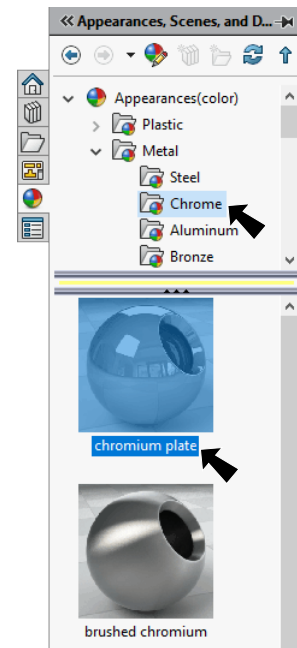

Fig. 20
Step 3. In the Appearances Task pane, expand **Metal**, click **Chrome** and in the lower pane select **chromium plate**, **Fig. 20**.